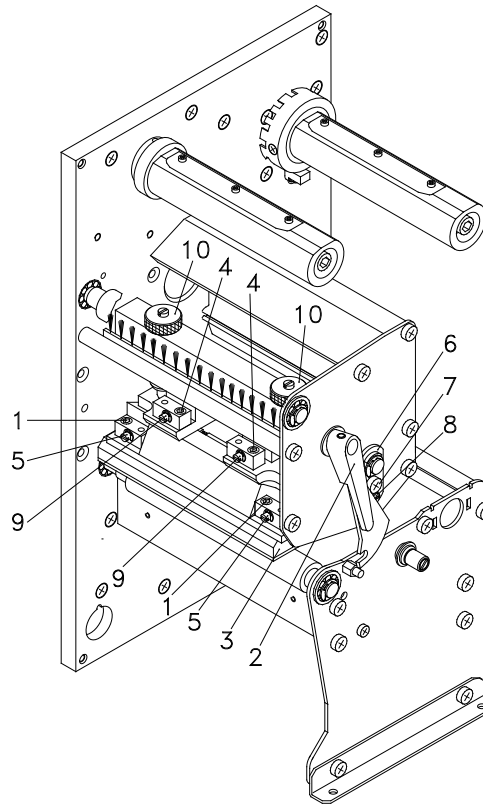

Figure 17
1. Loosen the screws (1 or 4, Figure 17) with a hexagon key by approx. ¼ rotations.
2. Adjust the parallelism with the adjusting screws (5 or 9, Figure 17).
4. Tighten again screws (1 or 4, Figure 17).
1. Loosen screw (7, Figure 17) with a screwdriver by approx. ¼ rotations.
2. In order to achieve a pressure balance, turn the excentric bolt (8, Figure 17) as long as the printing result comes up to your full expectation.
3. Tighten again screw (7, Figure 17).
1. Turn pressure screws (10, Figure 17) to change the pressure of printhead.
2. Turning the pressure screws (10, Figure 17) as far as they will go in clockwise direction results in a pressure increase of 10N in contrast to the factory setting.
3. Turning the pressure screws (10, Figure 17) exactly one rotation from the right stop position counter clockwise results in the factory settings.